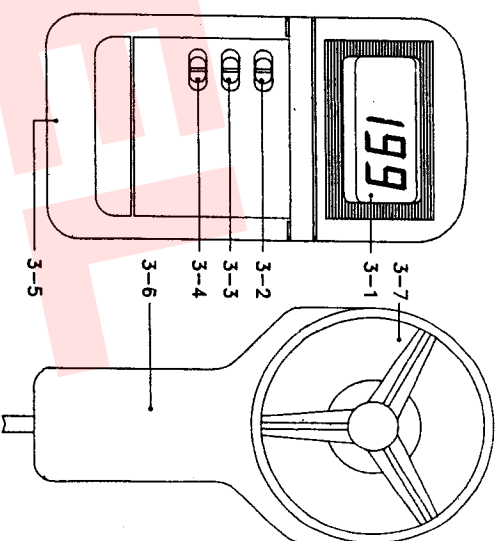

Fig. 1
- 1) Select the "Power Off/On Switch " (3-1, Fig. 1) to the "On" position.
- 2) According to the desired display unit, select the "Function switch 1 " (3-2, Fig. 1) & "Function Switch 2 " (3-3, Fig. 1) to the right position as following :
- 3) Hold the "Sensor Handle " (3-6 Fig. 1) by hand & let the "Sensor Head " (3-7, Fig. 1) is opposite to the measuring air flow source, then the Display will show air velocities directly.
- 2) Slide the battery cover (3-5, Fig. 1) and remove the battery.